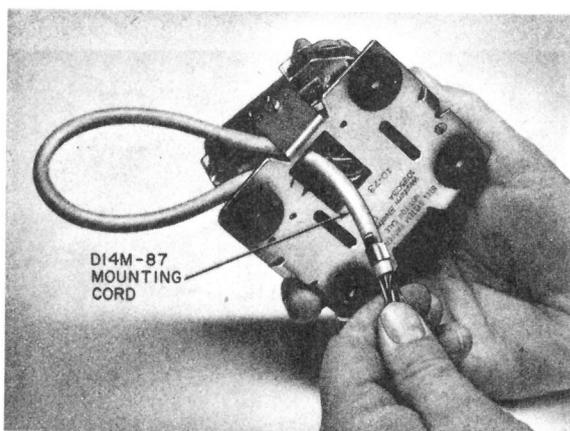

Fig. 7—Dressing D14M Mounting Cord Through Cutout in Base of Dial
- (3) Dress D14M-87 mounting cord through cutout in base of dial as shown in Fig. 7.